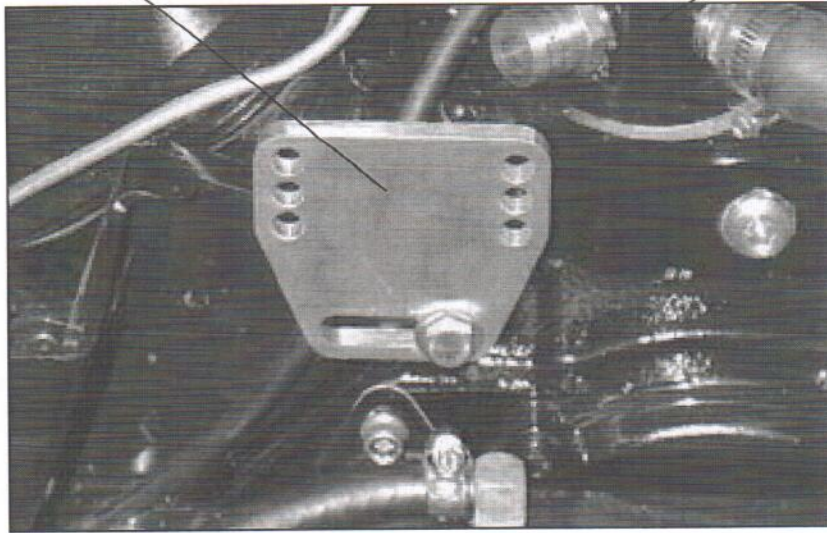

FIGURE B4
- 6a. If you will be mounting your intercooler remotely, follow 6b, otherwise proceed. The lower intercooler bracket should be installed as shown in figure B4 with the 1.25" spacer placed against the head, then the P/S bracket, with the 0.400" spacer to the front face of the power steering bracket, and behind the lower I/C bracket. Secure the bracket/spacer assembly to the head using the supplied 7/16" x 3.25" bolt. With the I/C (intercooler) mounting bosses facing the front of the engine, attach the I/C to the lower bracket using the provided 3/8-16 x 3/4" bolts & lockwashers (*Note: in some cases it may be simpler to attach the bracket to the intercooler first, and then install the entire assembly on the engine.*)